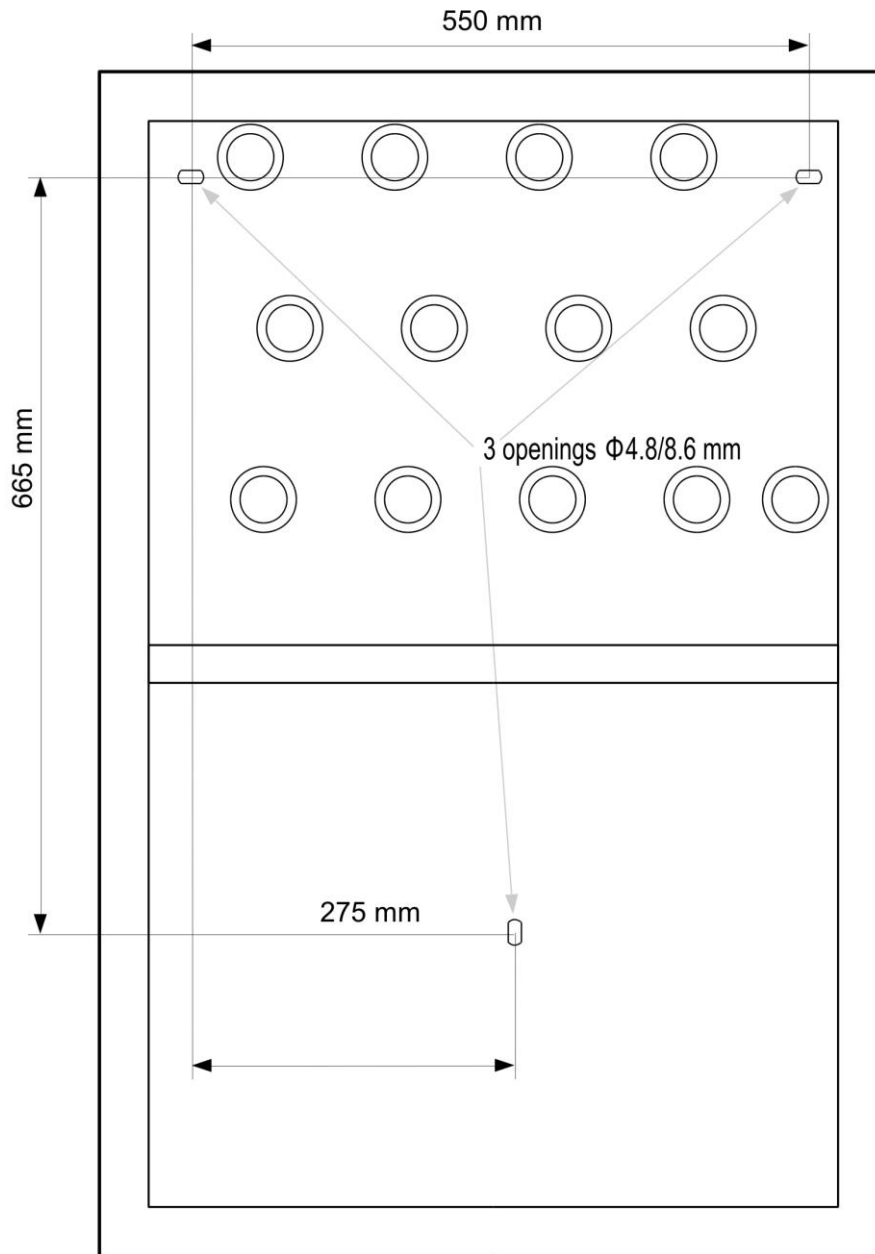

Fig. 8.1.2 UCS control panel (case from 32 A to 64 A) fastening
- should be placed on a stable ground next to the wall and mounted to it; or should be mounted on the wall with three M8 bolts and expansion anchor bolts of the diameter at min. 12 mm - case from 32 A to 64 A (fig. 8.1.2).